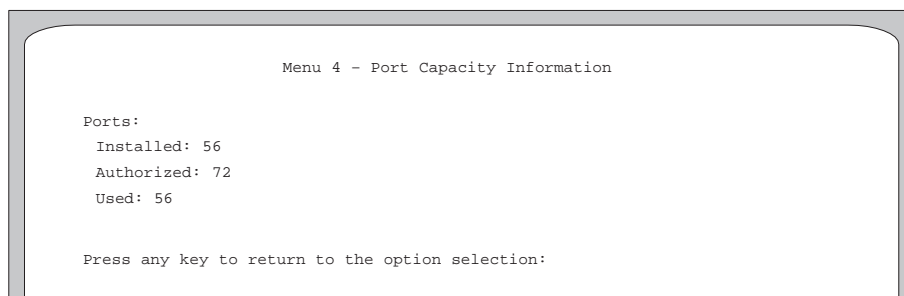

Figure 12-7. Example of Menu 4.2, Port Capacity Information.
8. From the Main Menu, access Menu 4 – Port Assignments, then menu 4.2, Port Capacity Information, as shown in the example in Figure 12-7, to ensure that the new ports were added successfully. Access menu 4.1, and configure the ports for the new cards. Refer to Chapter 5 for more information about menu 4 and configuring port assignments.